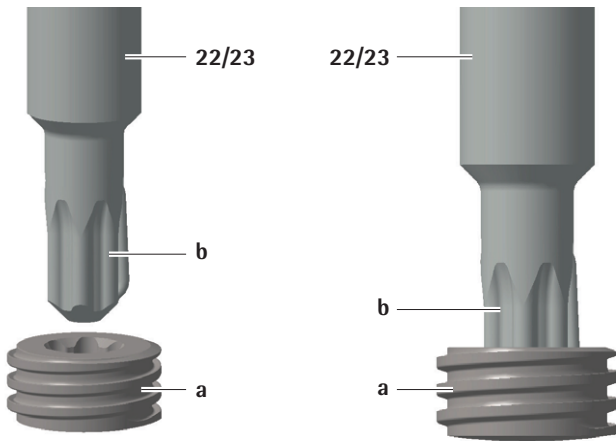

Fig. 30
- ▶ Load the set screw on one of the set screw starters (22 (SZ068R) double-ended or 23 (SZ069R) single-ended), see Fig. 30. Insert the working end b into the socket of the set screw a and push with light pressure.